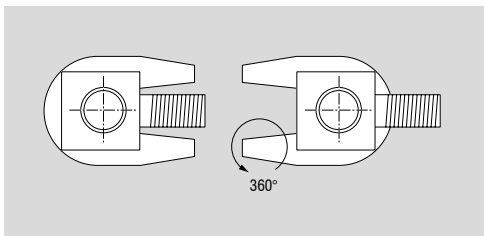

Fig. 5.2 The foot claw can rotate through 360°.
- The foot claw can rotate through 360°. 360° rotation of the claw and/or the base plate guarantees optimum positioning of the jack (Fig. 5.2).